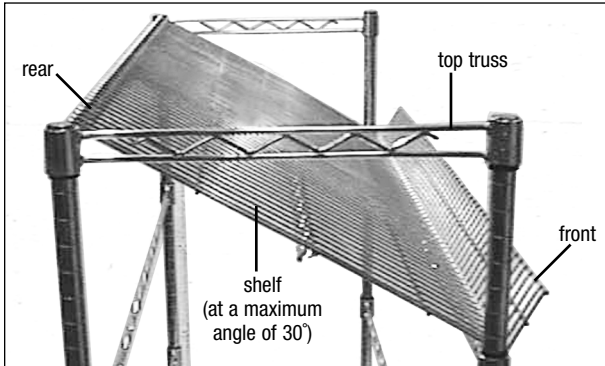

figure 5
- B Rest front of shelf on front of bottom truss. Shelf should be at an angle as shown in *figure 5*.
- C Repeat Steps 5a and 5b to assemble all remaining shelves. Downturn of topmost shelf should hook over top truss, as shown in *figure 5*.
Note: Shelves can be angled at a maximum slope of 30°, as shown in *figure 5*.